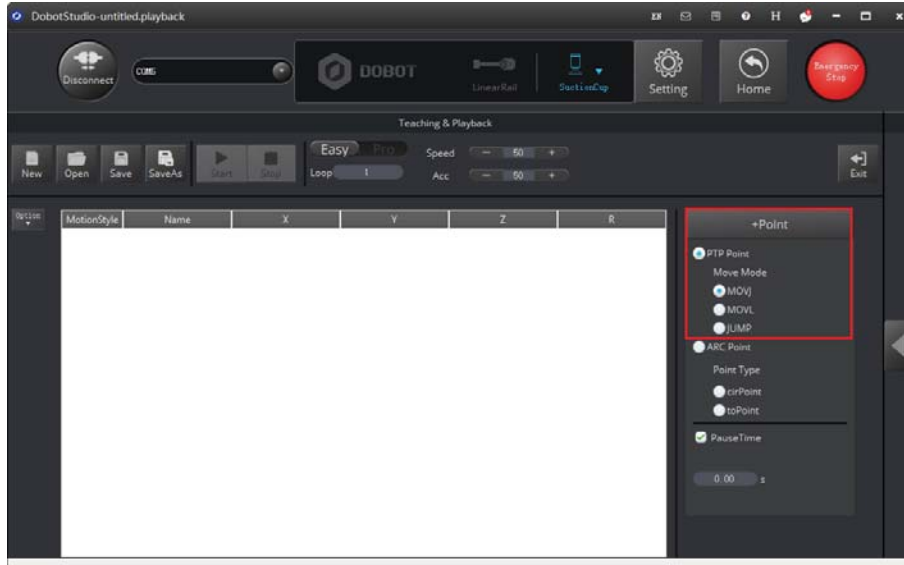

Figure 2.19 Select MOVJ motion mode
2. Select **PTP Point** > **MOVJ** mode in the Save Point area, as shown in Figure 2.19.